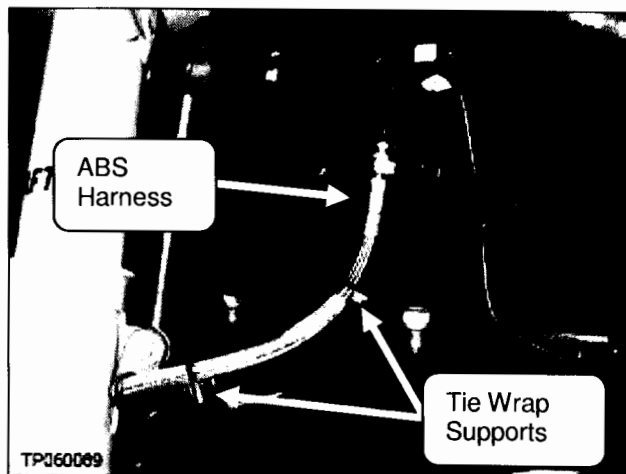

Figure 6
12. Secure the ABS harness to the brake hose using the two provided tie wrap supports (see Figure 6). Clip off the excess tie wrap material.